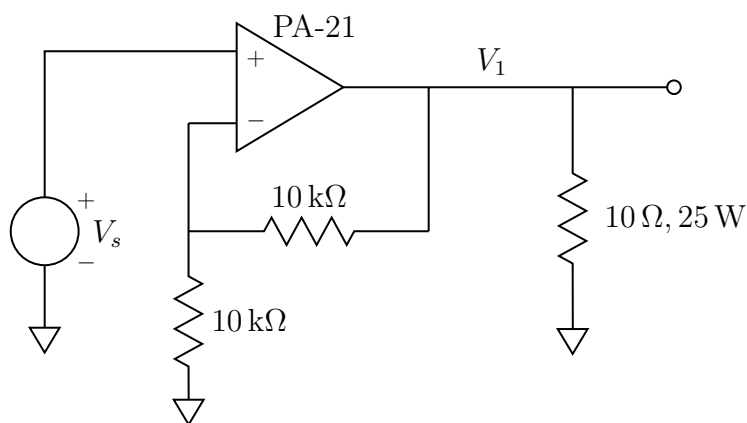

Figure 2: Amplifier with resistive load. The 10k resistors shown are soldered-in on the amplifier board.
1. **Resistive load:** Carefully connect the amplifier to the supply as described above. Use a  $10\ \Omega$ , 25 W power resistor as the load in a non-inverting gain of two connection. The circuit you build should appear as shown in Fig. 2. The 10k resistors shown are soldered-in on the amplifier board. We have also soldered in a pair of  $1\ \text{M}\Omega$  resistors to provide the input current of the amplifier under conditions where you have not connected its inputs. However for present purposes, you can simply ignore these resistors. Use your protoboard to interface the signal generator through a BNC connector to the input of the power amplifier. The power resistor is provided for you on the amplifier terminal strip.